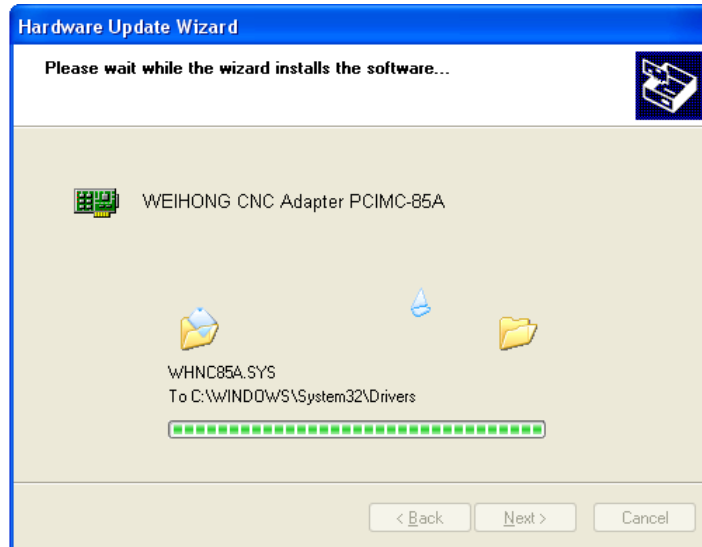

Fig. 2-13 Updating the driver
- 8) Click [OK] to go back, and then click [Next] to start updating the driver software. The progressing picture is shown as Fig. 2-13.